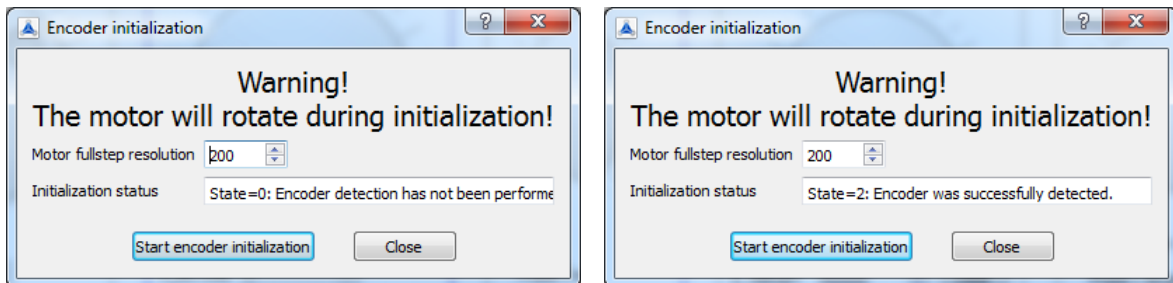

Figure 3.5 Encoder initialization window before initialization and afterwards
- For closed loop mode, initialize the encoder with the appropriate command fields (see **Figure 3.5**) first. To open up the *encoder initialization* window, click on the **Init encoder** button on the **quickstart** tab.